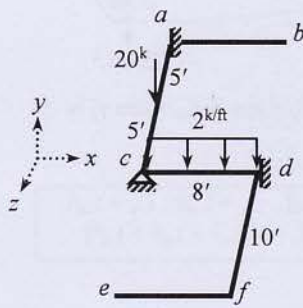

Fig.1
- Use stiffness method to calculate rotations of joint c of the grid system $abcdef$ loaded as shown in Fig.1 [Given: $EI = 20 \times 10^3 \text{ k-ft}^2$ and $GJ = 5 \times 10^3 \text{ k-ft}^2$].